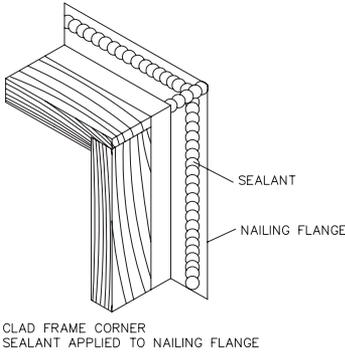

Figure 6
7. Apply a continuous nominal bead of sealant along the backside of the nailing flange, along both side jambs and head. Run additional sealant across the 45° joint where the flanges meet (see figure 6).